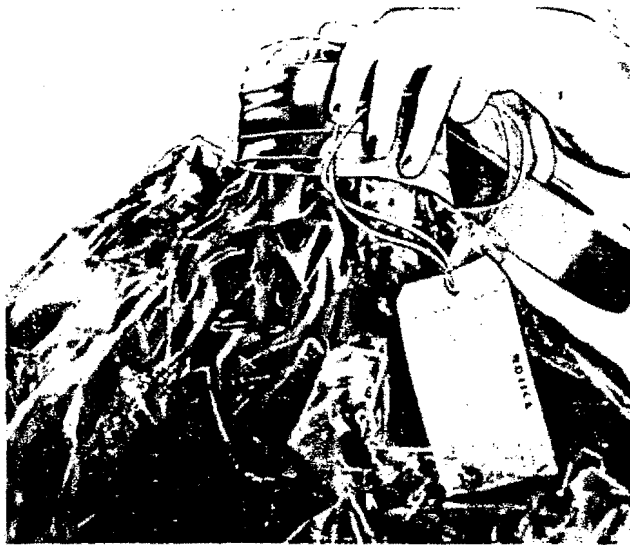

Figure 4-3. Remove Tape
c. Remove the tape [Figure 4-3] which gathers the top of the engine protective envelope around the propeller shaft and open the envelope by cutting off the sealed portion. Cut off as little envelope material as possible so that the envelope can be reused. Unscrew the protector cap and spanner nut [Figure 4-4]; then remove the protective envelope and spacer from the propeller shaft [Figure 4-5].